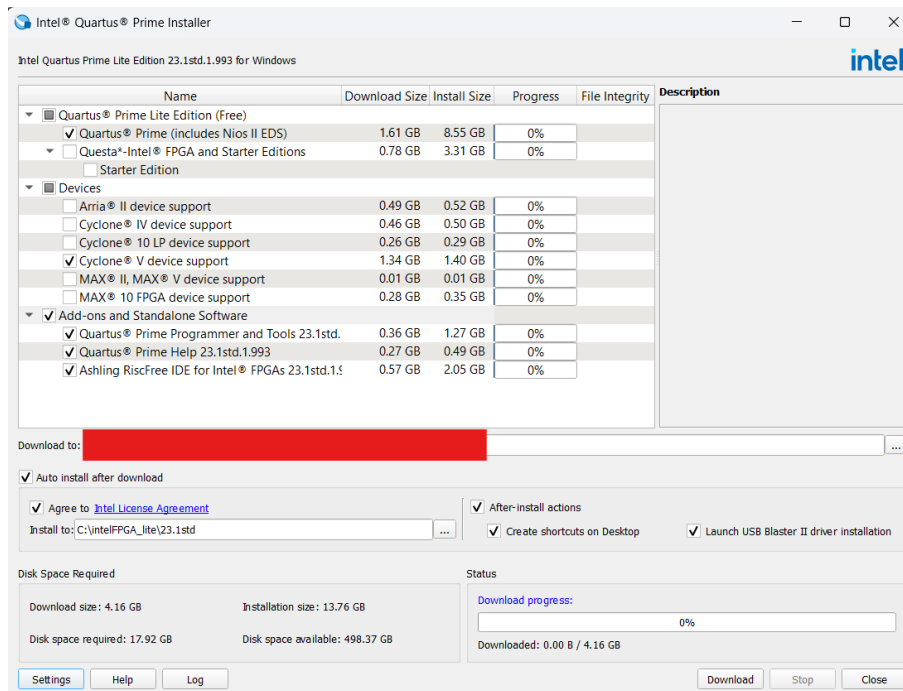

Figure 1: Quartus installation selection page.
5. When installing, check the boxes as seen in Figure 1.